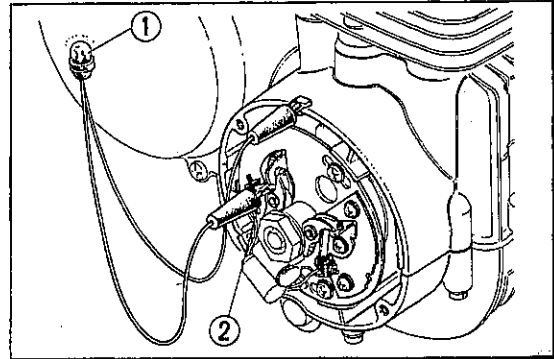

Fig. 15 ① 12 V Lamp ② Blue cord
1. Connect a 12V test lamp to 1·4 points primary wire (blue) and to ground. (See Fig. 15)
4. If the adjustment is necessary, align the "F" (1·4) mark to the timing mark and loosen the screws (D), and then move the base (E) until the lamp goes on. Tighten the screws.